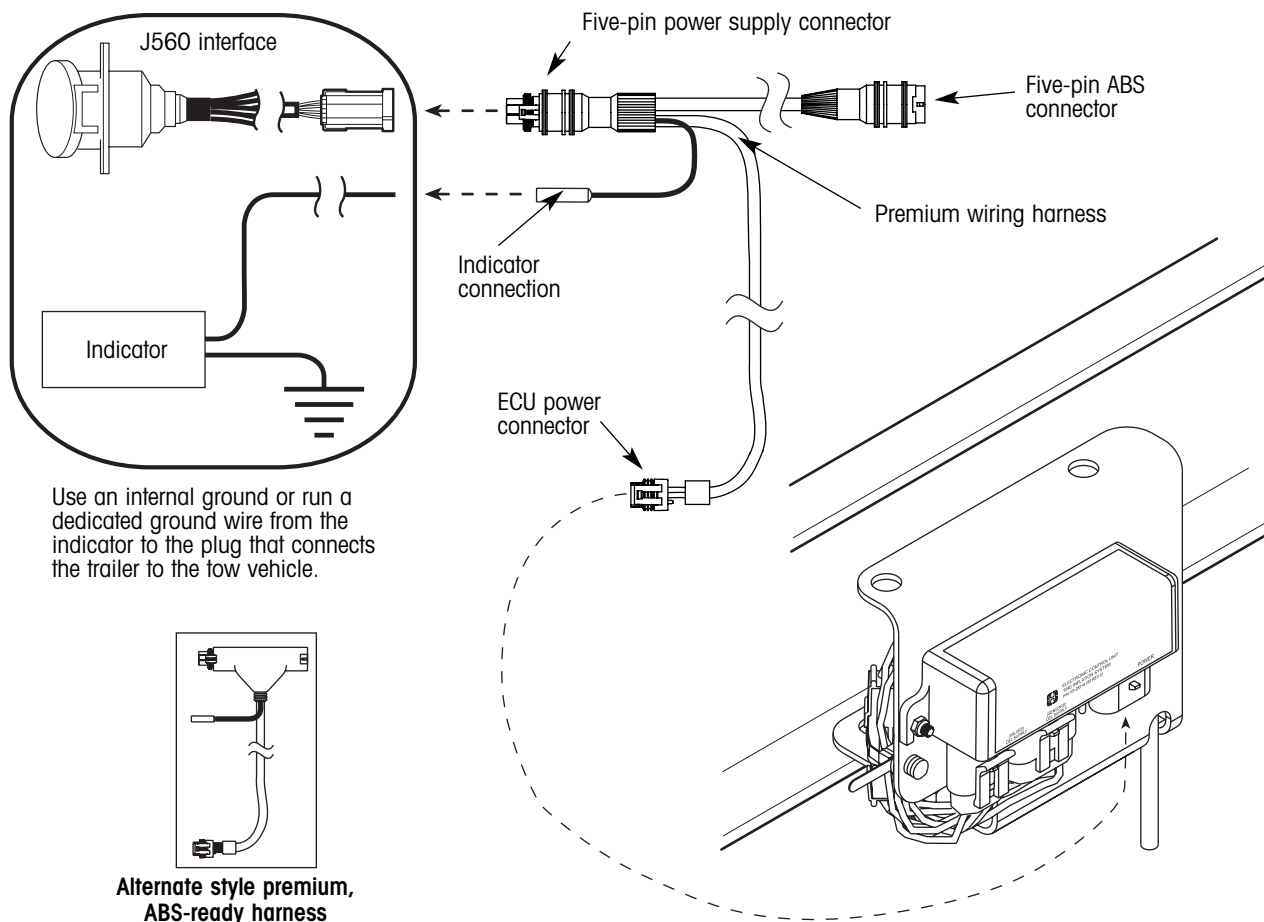

Figure 43. Premium wiring harness replacement
1. Disconnect the five-pin ABS connector (figure 43).